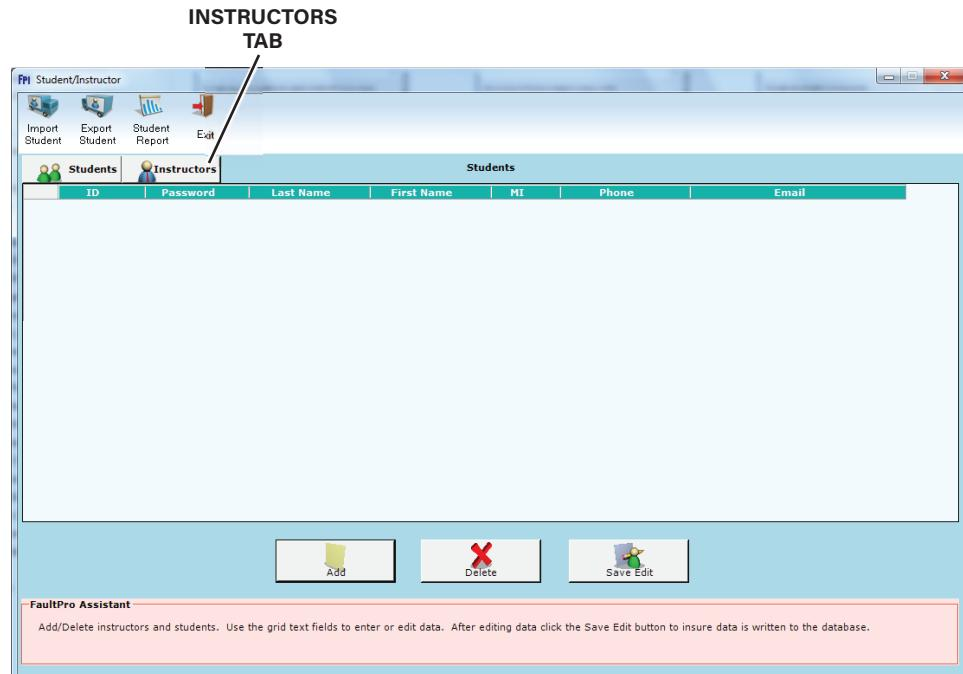

Figure 43. The Edit Instructor Screen
- A. Click the **Students/Instructors** button to open the Student/Instructors dialog, shown in figure 43.